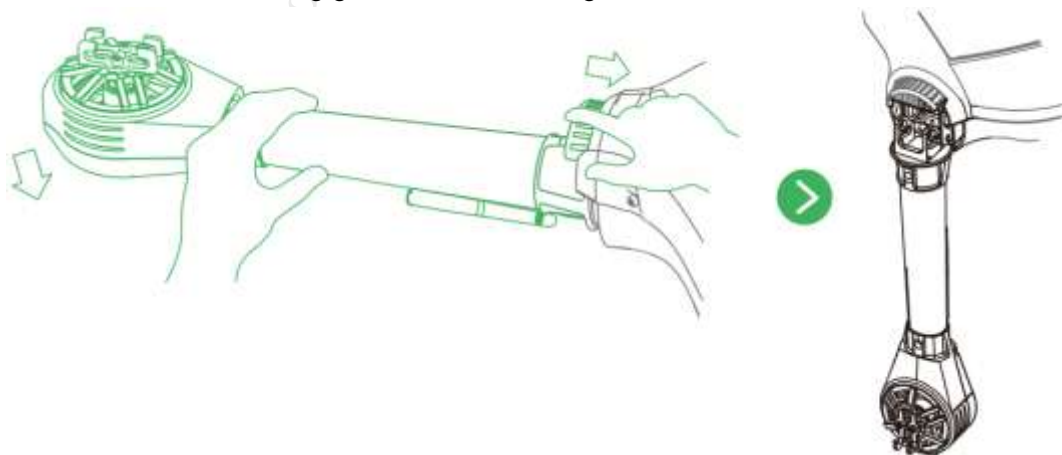

Figure 5-10
Step 3 Hold the aircraft arm with hands, press the button to fold the arm downward and make it close to the landing gear, as shown in Figure 5-10.